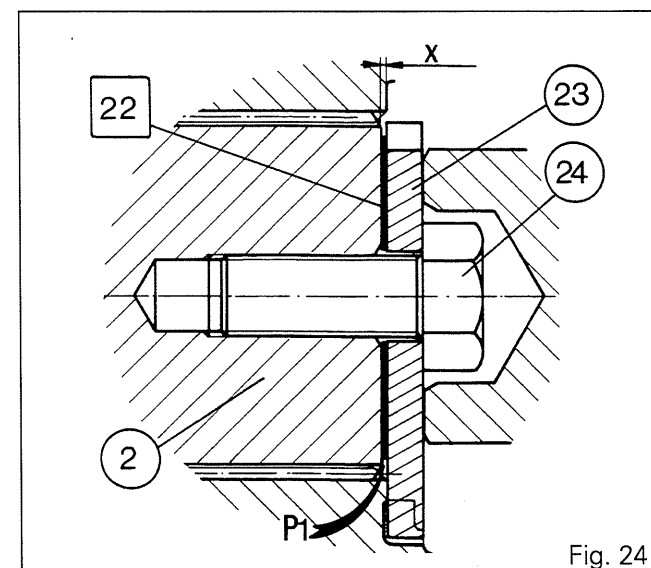

Fig. 24
- Remove the bolt (24) and the washer (23).
- Determine the thickness of shims [22] greater than dimension X required to obtain a maximum end play (Fig. 24).
- Fit the washer (23) and the bolt (24). Tighten to a torque of 340 - 540 Nm.